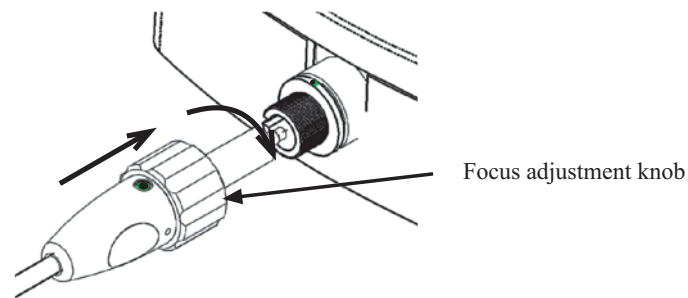

Figure 6. Focusing the fiberscope
- d. Continue turning the focus adjustment knob clockwise, as shown in Figure 6, until the fine-detailed surface at the distal end of the scope comes into optimal focus on the LCD video monitor.